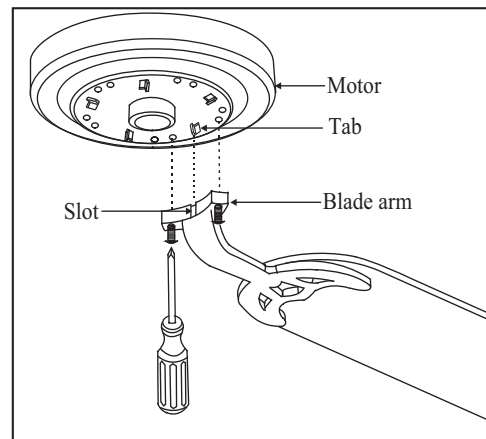

Figure 18
Step 3. Fasten the blade assemblies to the motor housing by lining up the slots of the blade arms with the tabs on the motor housing, then tighten the two screws and washers already installed in the blade arms. (Fig. 18)